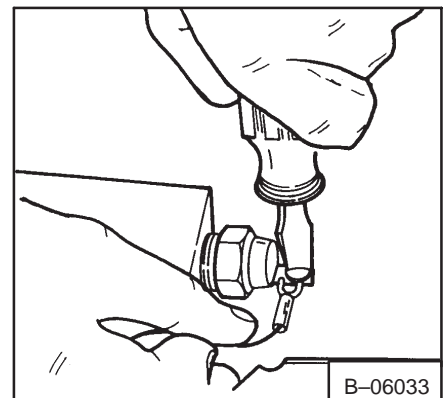

Fig. 3-27 Temperature Switch Wire
8. Disconnect the wire from the temperature switch (Fig. 3-27).